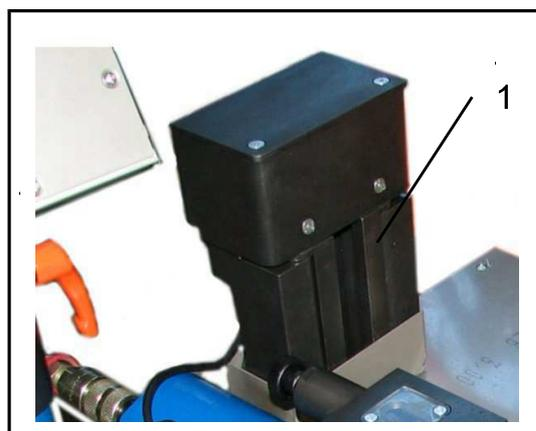

Fig.13
- Make a move with the levers of the measurement insert [1] (Fig.13)